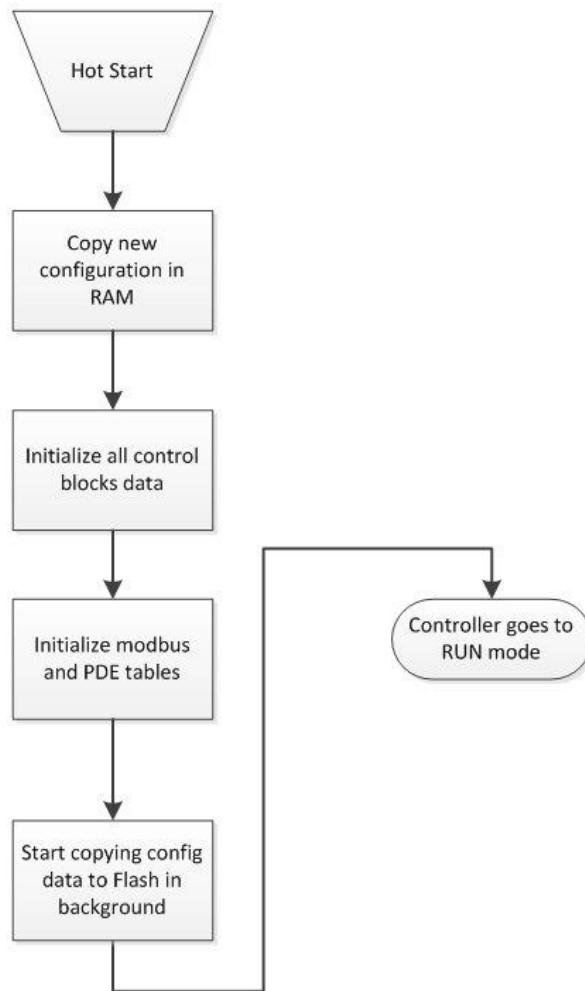

Figure 95 – Warm Start Operation
A Warm Start is a restart of the control strategy using dynamic data that is stored in battery backed RAM to allow control action to resume exactly as it was before the restart. In the Warm Start procedure (flowcharted in the main flow of Figure 95), diagnostic testing proves the integrity of the hardware, software, and configuration database resulting in an automatic Warm Start of process control. Control action is resumed exactly as it was before the outage.
- After a power outage, when diagnostics indicate that the controller hardware and software program are intact, but the content of the RAM database is incorrect. (See Figure 95.)